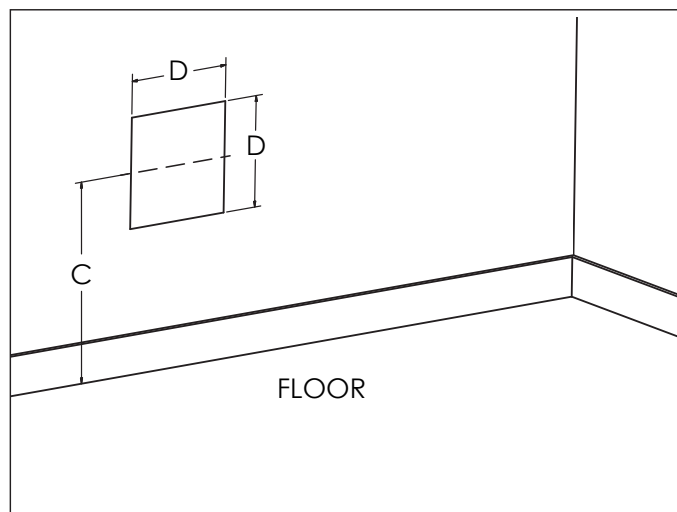

Figure 2
2. Cut the square hole through the wall according to the measurements and positions indicated in figure 2.